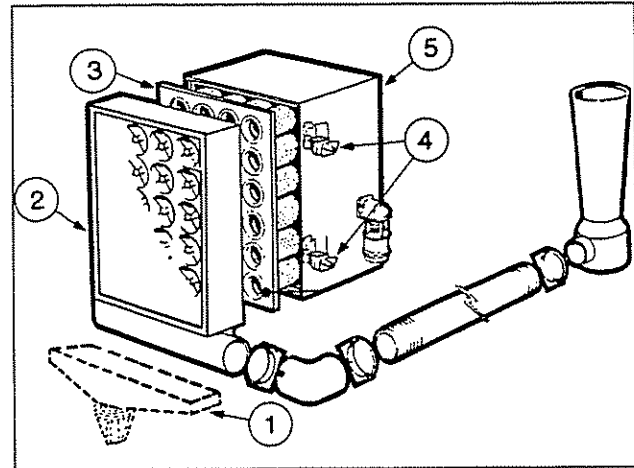

Fig. 2-13, (N21026). Air cleaner — cartridge type (two stage)
1. Loosen the wing nuts (4, Fig. 2-13 or 2-14) on the air cleaner housing (5) to remove the pre-cleaner panel with the dust bin (1). To remove the pre-cleaner panel (2) equipped with an exhaust aspirator loosen the "U" bolt clamp securing the pre-cleaner to the aspirator tubing.
2. Remove the dirty Pamic cartridge (3), by inserting your fingers in the cartridge opening (loosen all four corners of the cartridge, one at a time) and pulling it straight out.
2. To install a new cartridge, hold the cartridge (3, Fig. 2-13 and 2-14) in the same manner as when removing it from the housing. Insert the clean cartridge into the housing; avoid hitting the cartridge tubes against the sealing flange on the edges of the air cleaner housing.
4. Replace the pre-cleaner panel (2) and tighten the wing nuts (4) by hand, for final tightness turn 1-1/2 to 2 turns with a small adjustable wrench. Do not overtighten. On a pre-cleaner with an exhaust aspirator, assemble the aspirator tube to the pre-cleaner panel and tighten the "U" bolt.